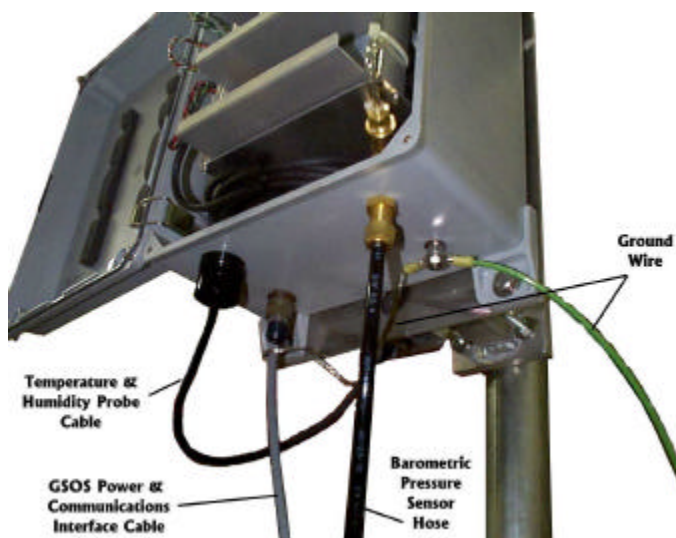

Figure 10 GSOS Payload Interconnections
17. Attach the interface cable's braided ground strap to the ground lug, attach the ground wire to the lug, and secure the nut on the ground lug (see Figure 10). *The ground wire must be connected to a good earth ground or ground rod.*
18. Connect the GSOS Power and Communications Interface Cable to the military style connector on the bottom of the GSOS Payload (see Figure 10).